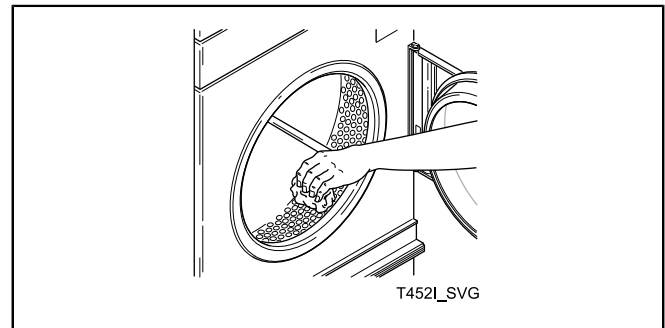

Figure 13
10. Wipe out the cylinder using an all-purpose cleaner or detergent and water solution. Refer to *Figure 13* .